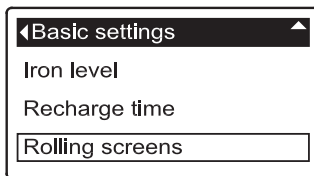

FIG. 45
3. Press the SELECT (O) button to display the Basic settings menu (See Figure 45).
7. To un-select a screen, make sure its name is highlighted in a box. Then press the SELECT (O) button. The black square will disappear. Pressing SELECT (O) again makes the black square reappear and re-selects the highlighted item. At least one screen must be selected/highlighted.
8. When selections are complete, exit this menu by pressing the LEFT (◀) button. The display will go back to the Basic settings menu (Figure 45).